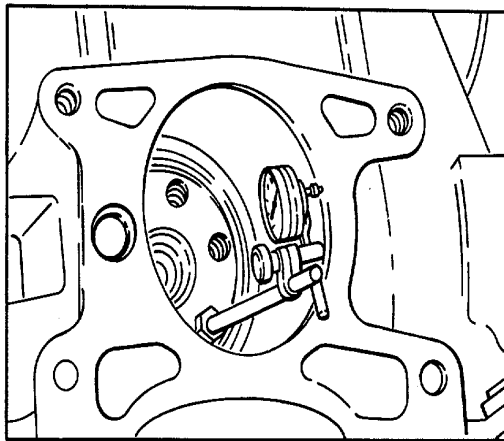

Figure 6. Checking Bore Runout
b. Install dial indicator J 8001-3 and position it to read the bore runout of the housing (Fig. 6). Now check the runout by rotating the crankshaft. The runout should not exceed 0.008 inch.